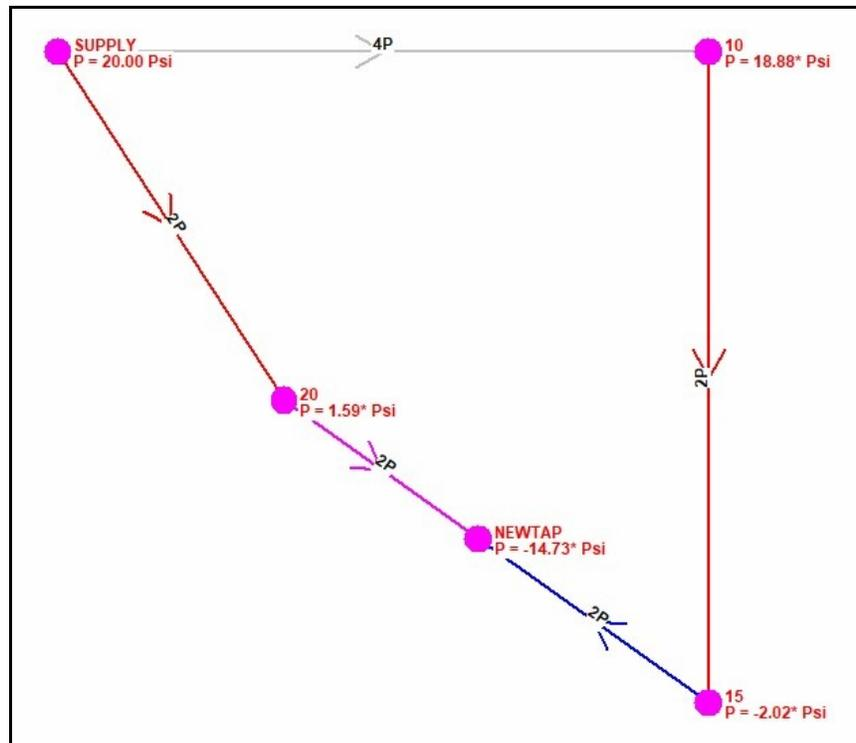

Figure 5
- Click the *Apply Range Colors* command button. The colors of the displayed pipes will be updated to reflect the range color values as seen in Figure 5.